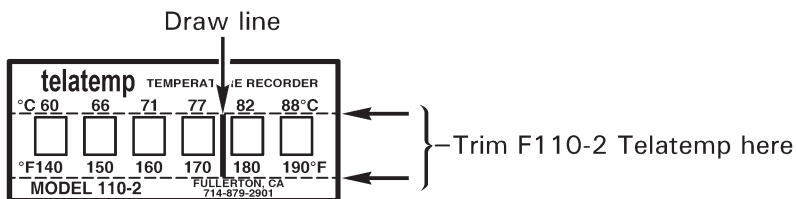
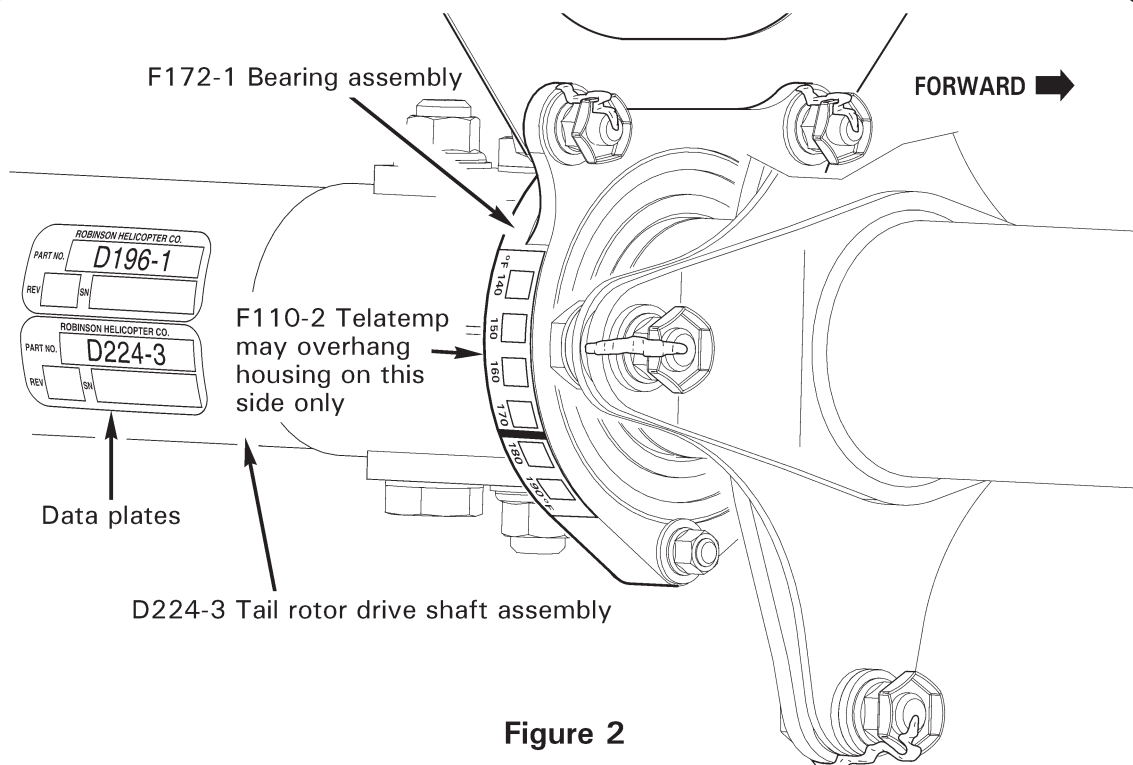

Figure 1
Figure 2
1. Refer to Figure 1. Using a black, permanent-ink marker, draw a line between the 170°F and 180°F temperature squares on a P/N F110-2 or 110-2 Telatemp. Trim Telatemp as shown; ensure the Fahrenheit temperature scale is still legible.
2. Remove tailcone cowling per R66 Maintenance Manual (MM) § 53-23.
3. Refer to Figure 2. Using a lint-free cloth dampened with acetone, clean exterior of F172-1 bearing assembly. Install trimmed Telatemp on right side of F172-1 bearing assembly as shown. Ensure squares are well bonded to the bearing housing. Allow the temperature scale to overhang the aft edge of the housing if necessary. Install tailcone cowling per MM § 53-23.